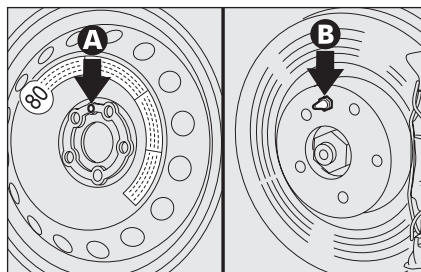

fig. 8
- ☐ fit the space-saver spare wheel making one of the holes **A-fig. 8** coincide with the relevant pin **B**;